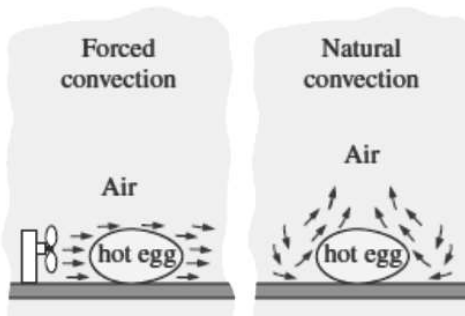

Fig. 1.6 Forced and Free (Natural) convection
- In contrast, convection is called natural (or free) convection if the fluid motion is caused by buoyancy forces that are induced by density differences due to the variation of temperature in the fluid (Figure 1.6).